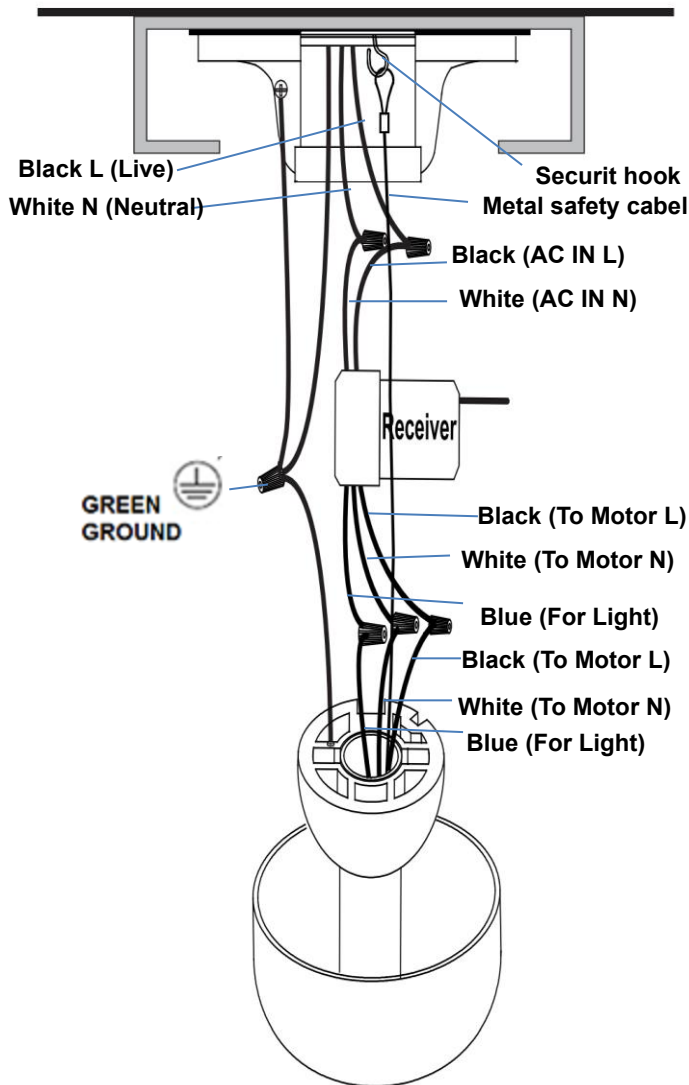
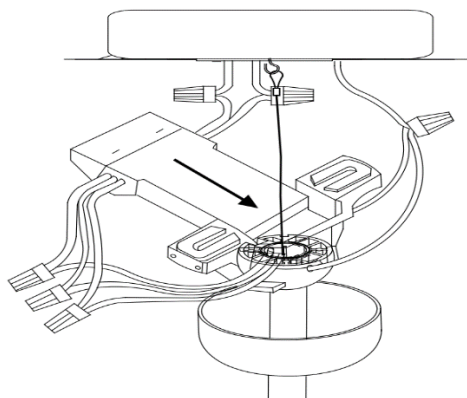

Fig. 10a
Fig. 10b
Follow the steps below to connect the fan to your household wiring. Use the wire connecting nuts supplied with your fan. Secure the connectors with electrical tape. Make sure there are no loose wire strands or connections. (Fig.10a & Fig.10b)
7. pull the metal safety cable on the security hook , tight the safety cable (Fig.10a & Fig.10b)